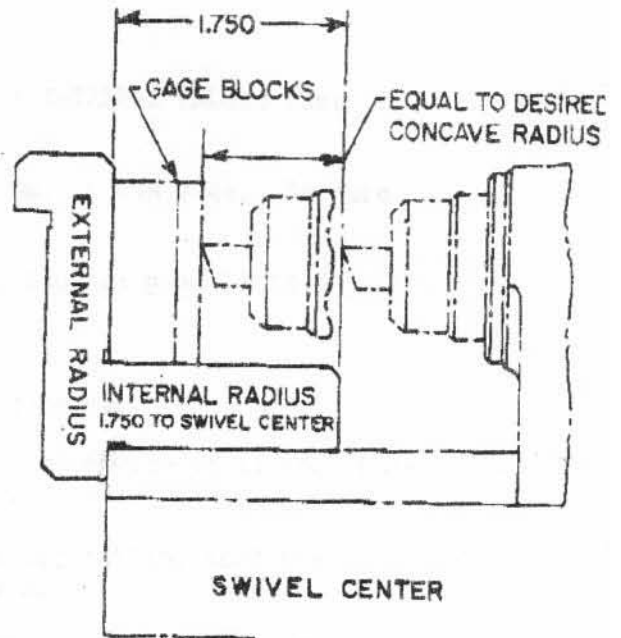

Figure 7 - Internal Radius Setup
1. Place RTA gage on tool slide swivel base with INTERNAL RADIUS side resting on swivel base as shown in Figure 7.